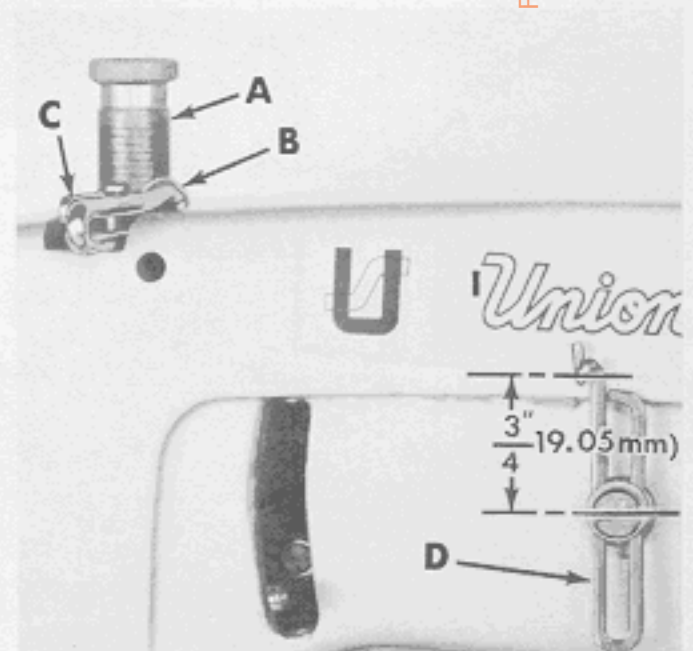

Fig. 16
Regulate the presser spring regulating screw (A, Fig. 16) so that it exerts only enough pressure on the presser foot to feed the work uniformly when a slight tension is placed on the fabric. This is the knurled screw, located directly behind the needle bar in the head of the machine. Turning it clockwise increases the pressure, counterclockwise acts the reverse.
Set the needle thread take-up wire (B, Fig. 16), located adjacent to the needle bar thread eyelet (C), so that its upper surface is even with the top of the holes in the needle bar thread eyelet when the needle bar has completed its downward stroke. Lower this setting for a smaller needle thread loop, and raise it for a larger loop. Set the needle thread frame eyelet (D) so that the eyelet hole is 3/4 inch
(19.05 mm) above the attaching screw (Fig. 16).